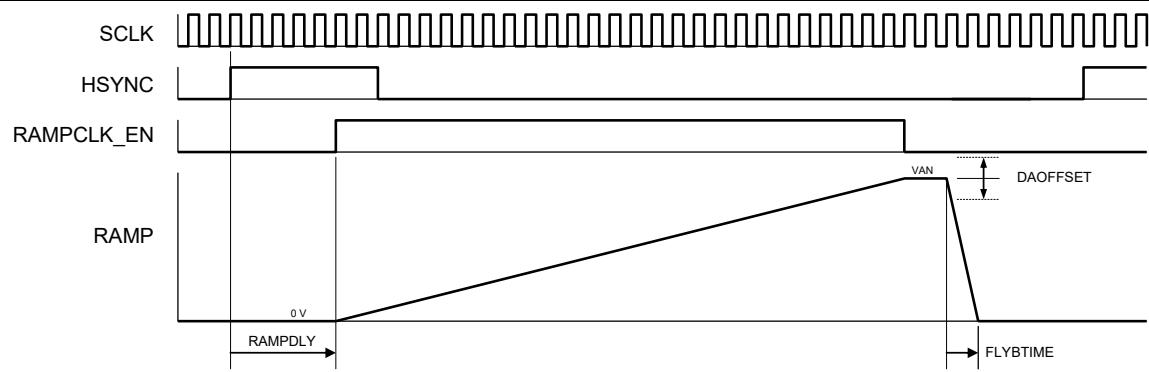

Figure 7 : Timing diagram for column data sampling
The 24-bit digital input port is comprised of three 8-bit data busses that make up the RGB data inputs. Separate synchronization signals (VSYNC and HSYNC) and the pixel clock (SCLK) are to be provided by the external video source. The data valid signal (DE) is used to signal the start of loading a row of data into the internal line memory. The timing diagram for the input data bus is shown in Figure 7.